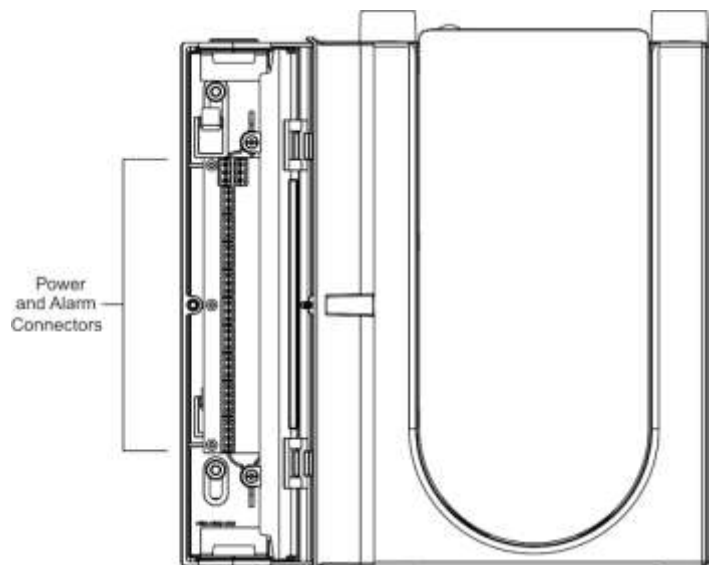

Figure 3: Power and Alarm Connector Block
1. run all wiring, both power and alarm, through the conduit and into the left side of the unit enclosure, as shown in Figure 3.